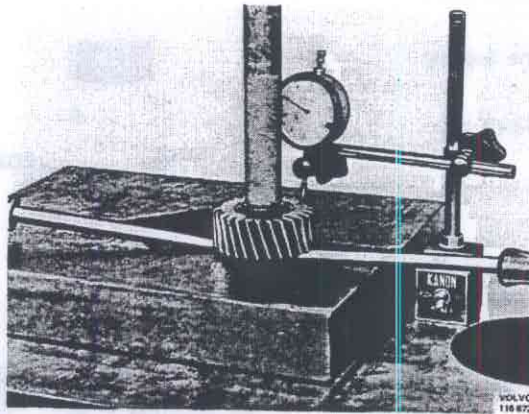

Fig 46-147 Checking the gear axial
6. Place the drive gear in a press, Fig. 46-147. Press the bearings together with a pressure of about 1 ton. Place a dial indicator with measuring point against the flat surface of the gear, see Fig. Check the gear axial clearance with the help of screwdrivers. The clearance must be 0.03–0.08 mm (0.012–0.032"), which is adjusted by means of shims from the following sizes: 1.25; 1.30; 1.35; 1.40; 1.60; 1.65; 1.85; 1.90; 1.95; 2.00 mm.